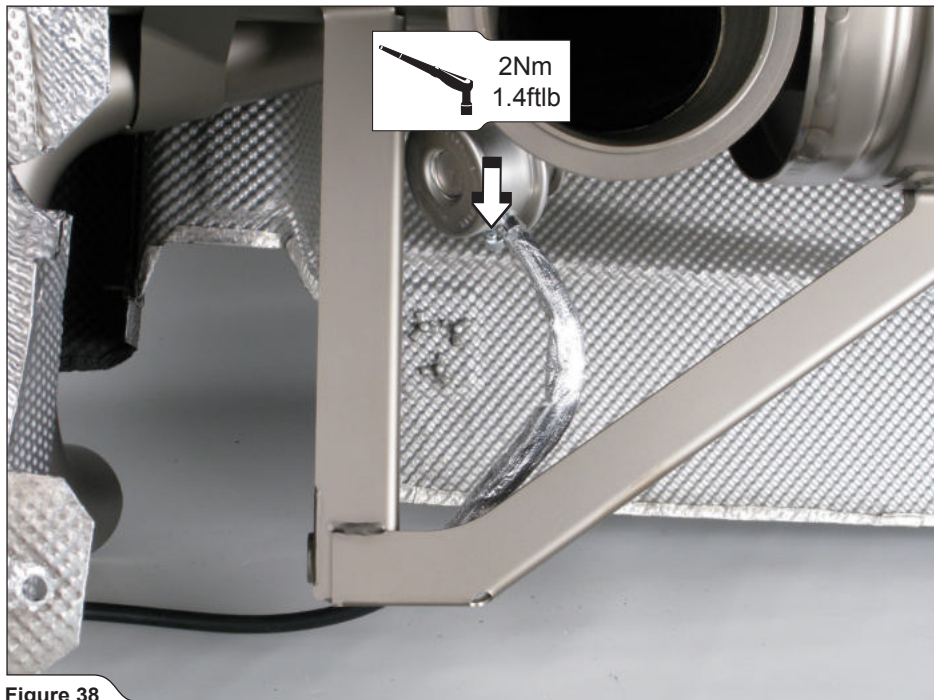

Figure 38
- Attach the shorter Akrapovič (600mm) rubber vacuum tube onto the right exhaust valve actuator and tighten the tape clamp (**Figure 38**).